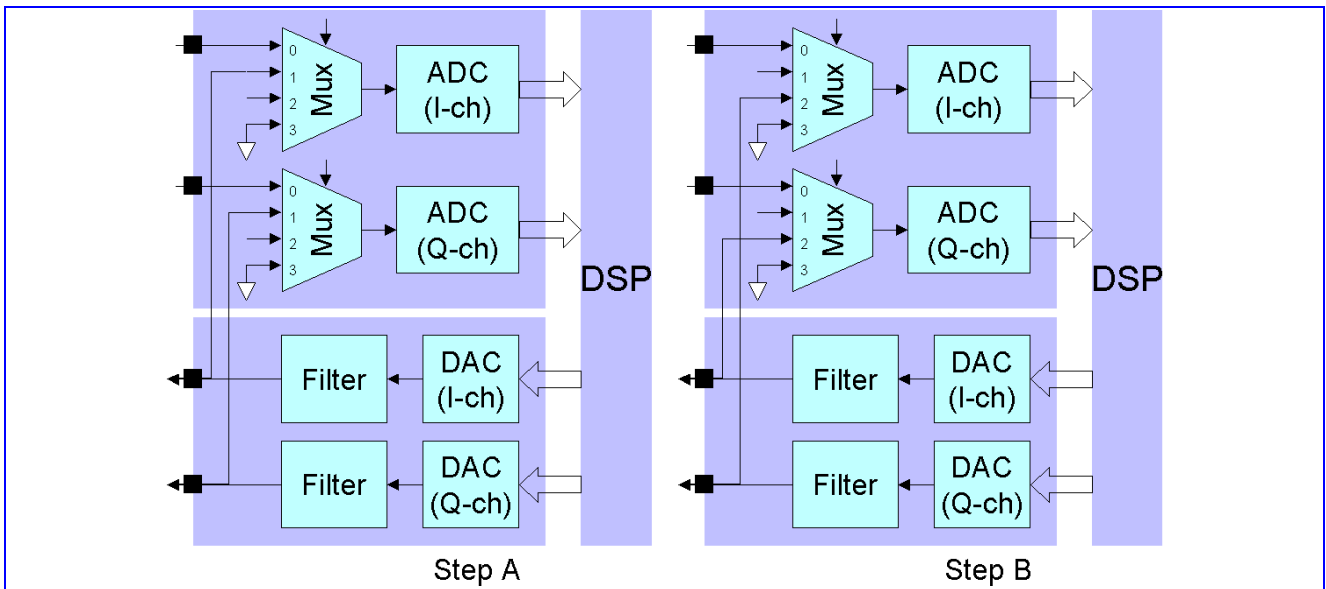

Figure 97 Downlink RX and Up-link TX Gain Mismatch Measurement (A) I/Q TX connect to I/Q RX (B) I/Q TX connect to Q/I RX
- A. The uplink I-channel output are connected to the downlink I-channel input, and the uplink Q-channel output are connected to the downlink Q-channel input. This can be achieved by setting **ISEL [1:0] = '01'** and **QSEL [1:0] = '01'** (shown in **Figure 97 (A)**).
- B. The uplink I-channel output are then connected to the downlink Q-channel input, and the uplink Q-channel output are connected to the downlink I-channel input. This can be achieved by setting **ISEL [1:0] = '10'** and **QSEL [1:0] = '10'** (shown in **Figure 97 (B)**).